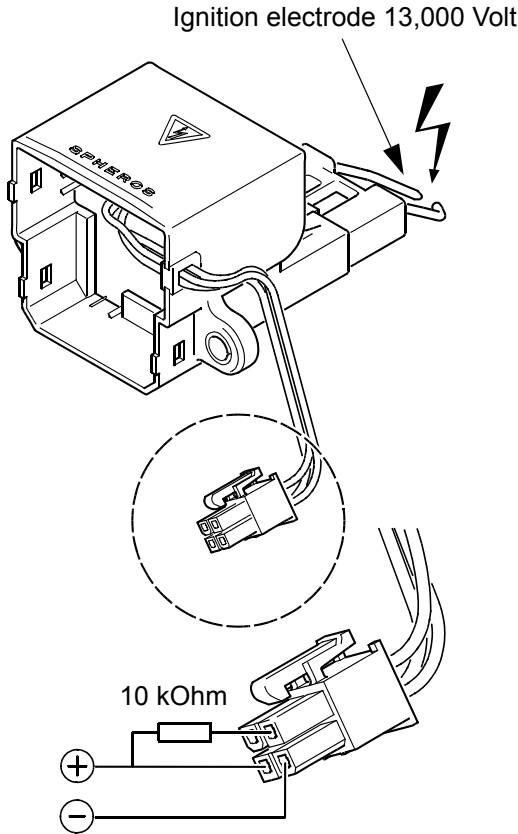

Fig. 505
- Apply 24V direct voltage according to Fig. 505.